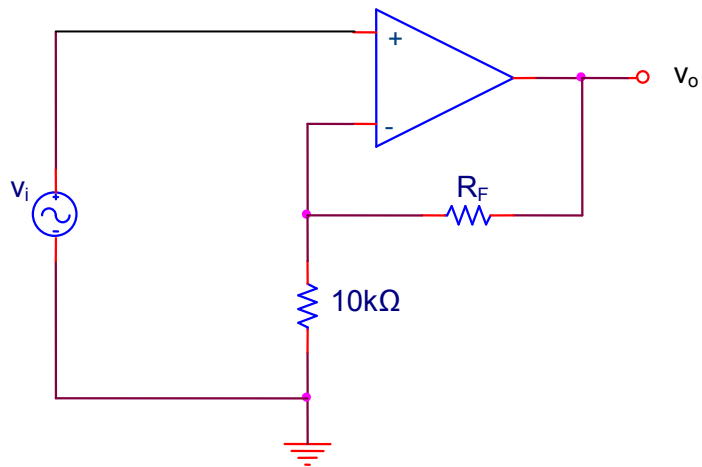

Figure 6.3
2. Repeat 1 for the circuit of Figure 6.3.
3. Repeat parts 1 and 2 for the circuit of Figure 6.3.
4. Replace R_F in Figure 6.3 with a short circuit. What is the peak value of V_o ?